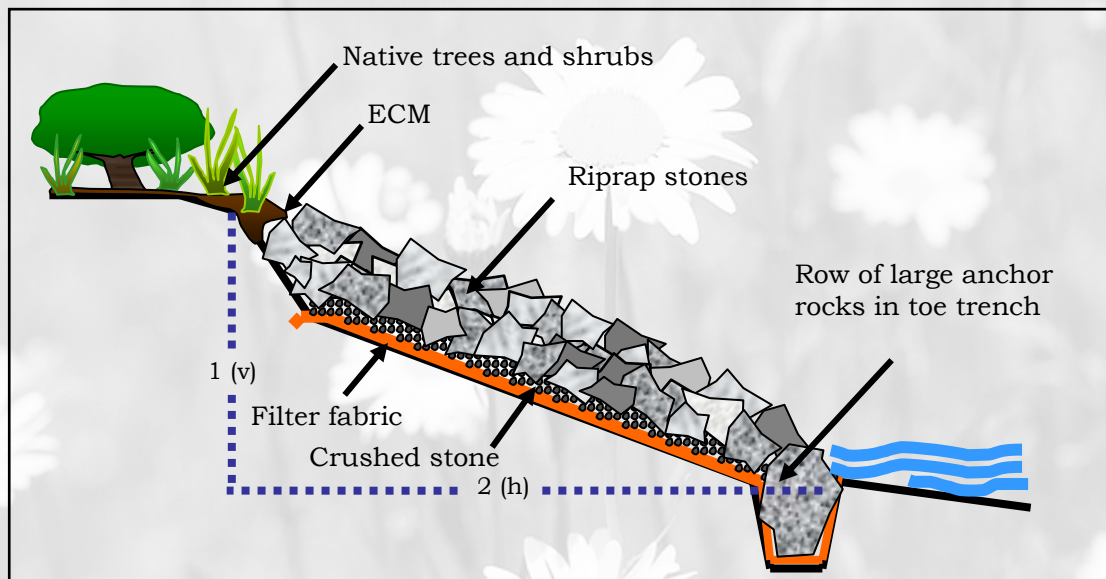

Figure 1. Riprap installation
1. If necessary, excavate the bank so that the final riprap slope will be no steeper than 1(h):1(v) and no shallower than 3(h):1(v). Do not remove existing vegetation. Create a trench in the bank toe that is at least as deep as the height of your largest riprap stone (Figure 1).